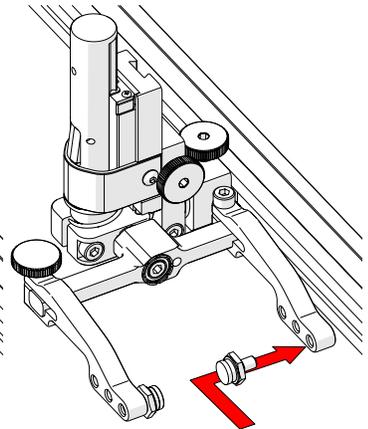

Fig. 125 - Place buttons
3. Position the pivot buttons where necessary. When a narrow scanning footprint is required, use the pivot button holes closest to the yoke (Fig. 125).